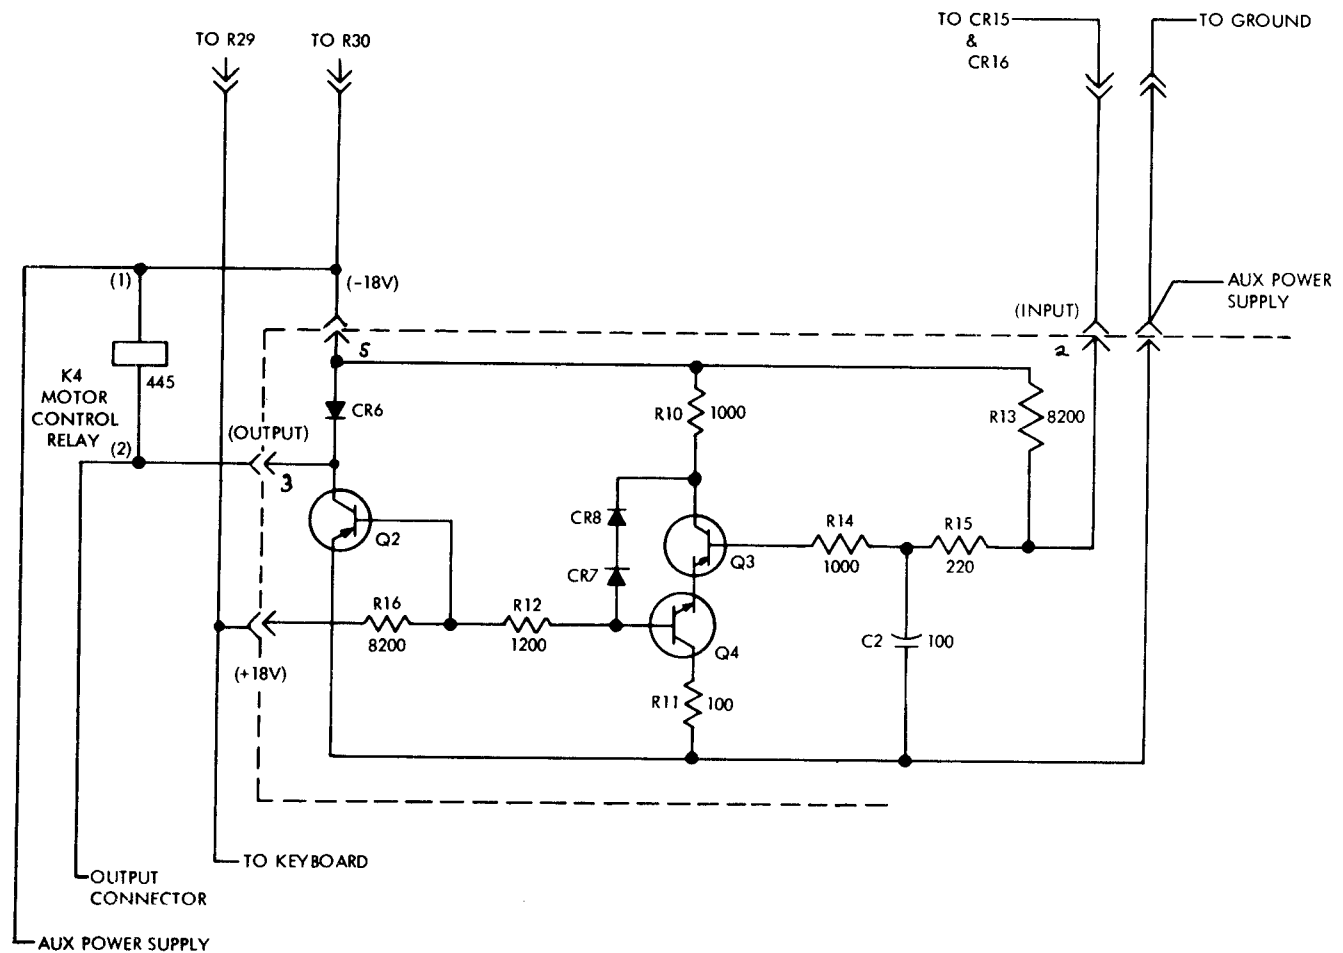

Figure 5 - Motor Delay Timer Circuit
3.09 The motor delay timer circuit (Figure 5), provides the means to delay motor turn-off in the teletypewriter. This allows the teletypewriter to complete its printing cycle and come to rest before the motor begins to stop. This circuit, along with the selector magnet driver circuit, are mounted on the same circuit card but are electronically independent of each other. The circuit is designed to drive a motor control relay connected between points 3 and 5 and is operated when either the connect or local circuit is on.